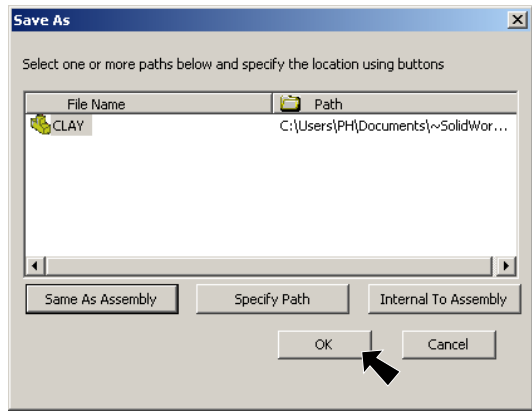

Fig. 30
Step 5. Click **OK** in the Save As dialog box, Fig. 30.